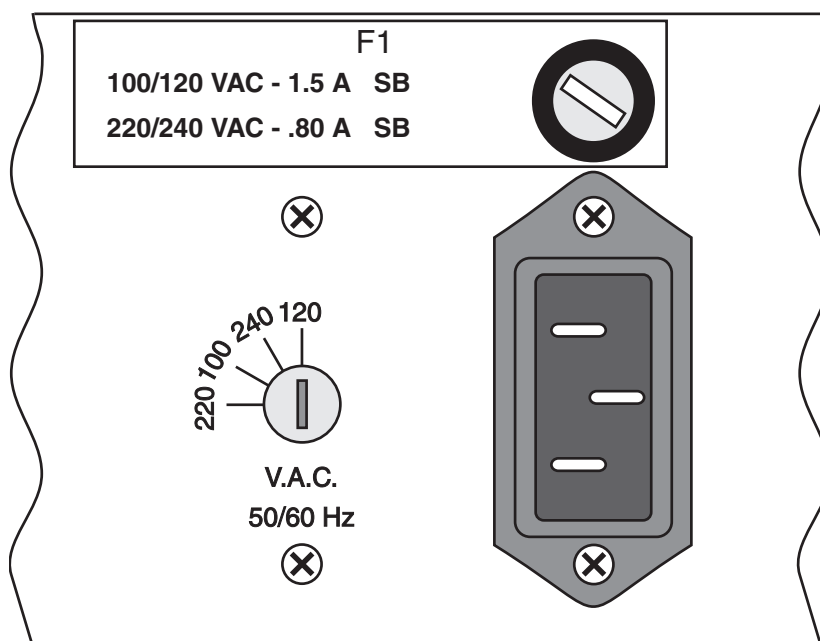

Figure 2-1. Fuse, Voltage-Selection Switch, and Power-Cord Socket
2. Insert the tip of a flat-bladed screwdriver into the slotted voltage indicator to the left of the power-cord socket on the counter's rear panel (see Figure 2-1).
1. Insert the tip of a flat-bladed screwdriver into the slotted fuse-holder cap above the power-cord socket on the counter's rear panel (see Figure 2-1 on page 2-2).